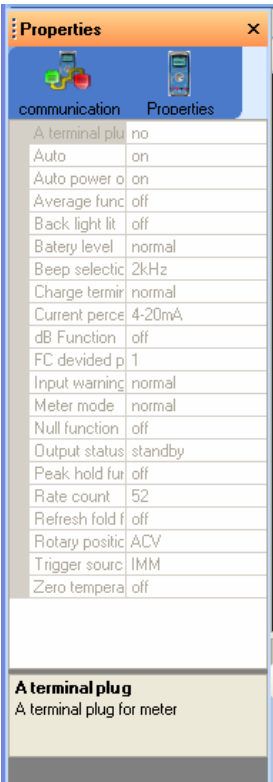

Figure A-7 Meter settings properties
- 11 You can check the meter properties by clicking and selecting **Properties** to view the meter properties panel (figure A-7).